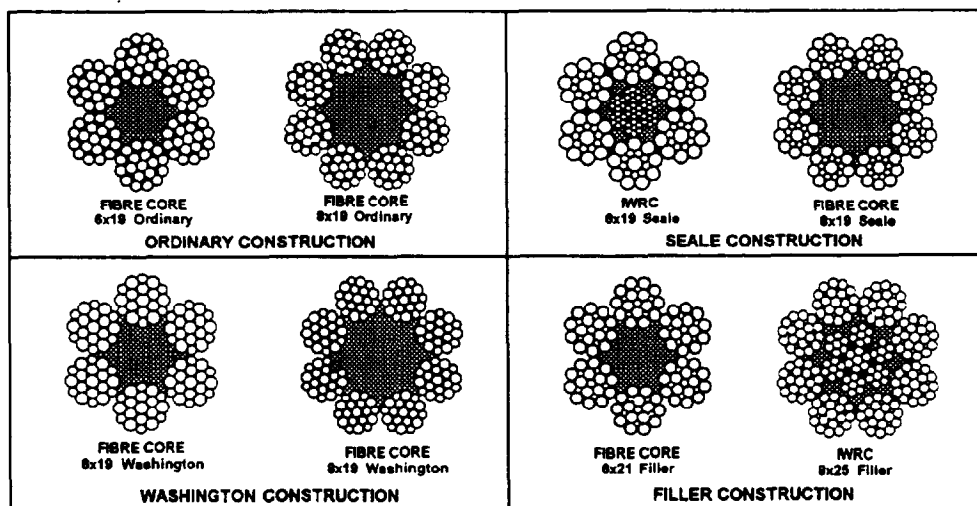

Figure 6-34.—Common strand construction.
**STRAND.**—The design arrangement of a strand is called the construction. The wires in the strand may be all the same size or a mixture of sizes. The most common strand constructions are Ordinary, Seale, Warrington, and Filler (fig. 6-34) as follows: